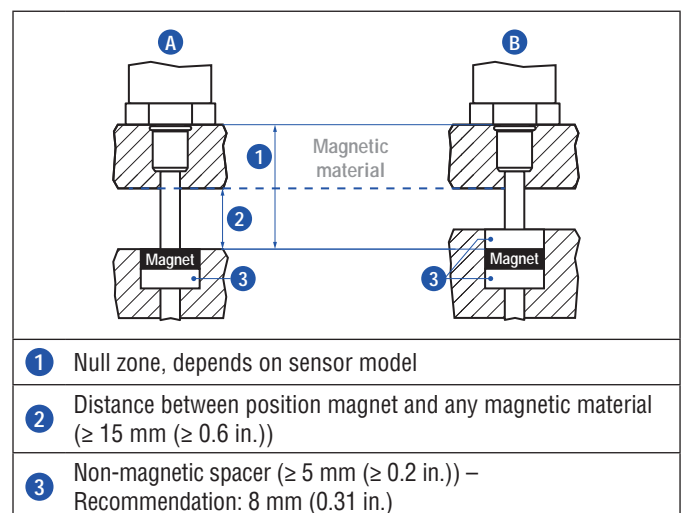

Fig. 39: Installation with magnetic material
- Minimum distance between position magnet and any magnetic material has to be 15 mm (0.6 in.) (Fig. 39).
- If no other option exists and magnetic material is used, observe the specified dimensions (Fig. 39).
When using magnetic material the dimensions of Fig. 39 must be observed.